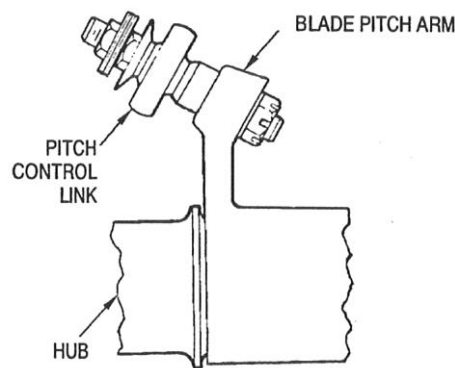

Figure 1 – Tail Rotor Blade Pitch Control Arm Area
- 1) Upon installation of a Tail Rotor Blade or for a fielded Tail Rotor Blade Installation: Clean Blade Pitch Arm and Pitch Control Link areas (Figure 1) with Rubbing Alcohol and Q-Tips. Apply Corrosion Inhibiting Shellac to all exposed hardware shown in Figure 1 in the vicinity of the Blade Pitch Arm and Pitch Control Link, including the Pitch Stud, Castellated Nut, Washer, Pitch Arm Bushing, and Cotter Pin. Pay particular attention to any bare metal or removed paint on Blade Pitch Arm. This application should be performed after Dynamic Balance of Tail Rotor Assembly.